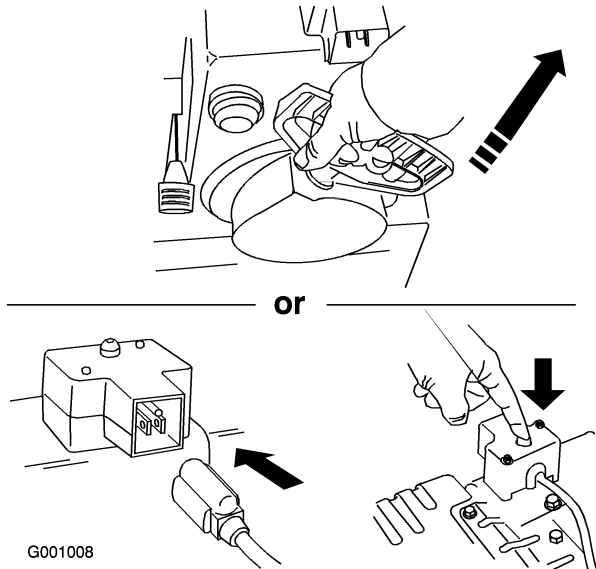

Figure 24
7. Start the snowthrower using the recoil starter or the electric starter (Figure 24).